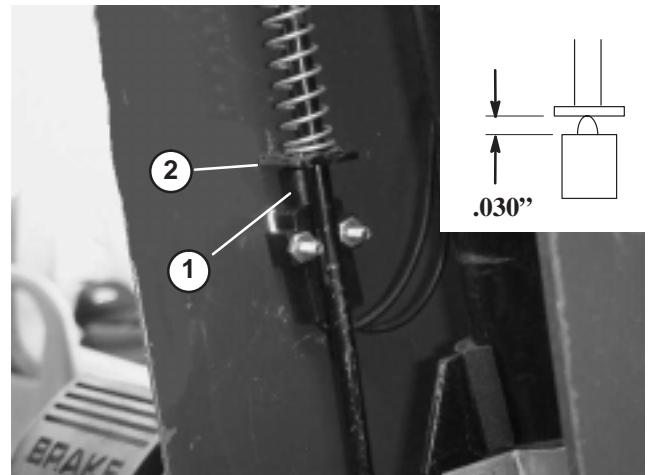

Figure 40
3. Slide cover up steering shaft to expose parking brake switch (Fig. 40).
5. Align parking brake rod paddle with switch plunger (Fig. 40)
6. Press down on parking brake rod and push up on switch until compressed length of switch plunger is .030" (Fig. 40, inset) . This the distance between the brake rod paddle and switch plunger housing.